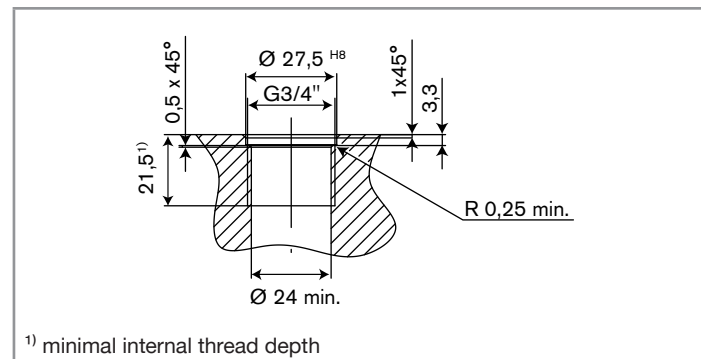

Fig. 11: Threading jig for the adapter [mm]
- Install the device on the pipe or the tank wall by means of an adapter that respects the threading jig from Fig. 11.